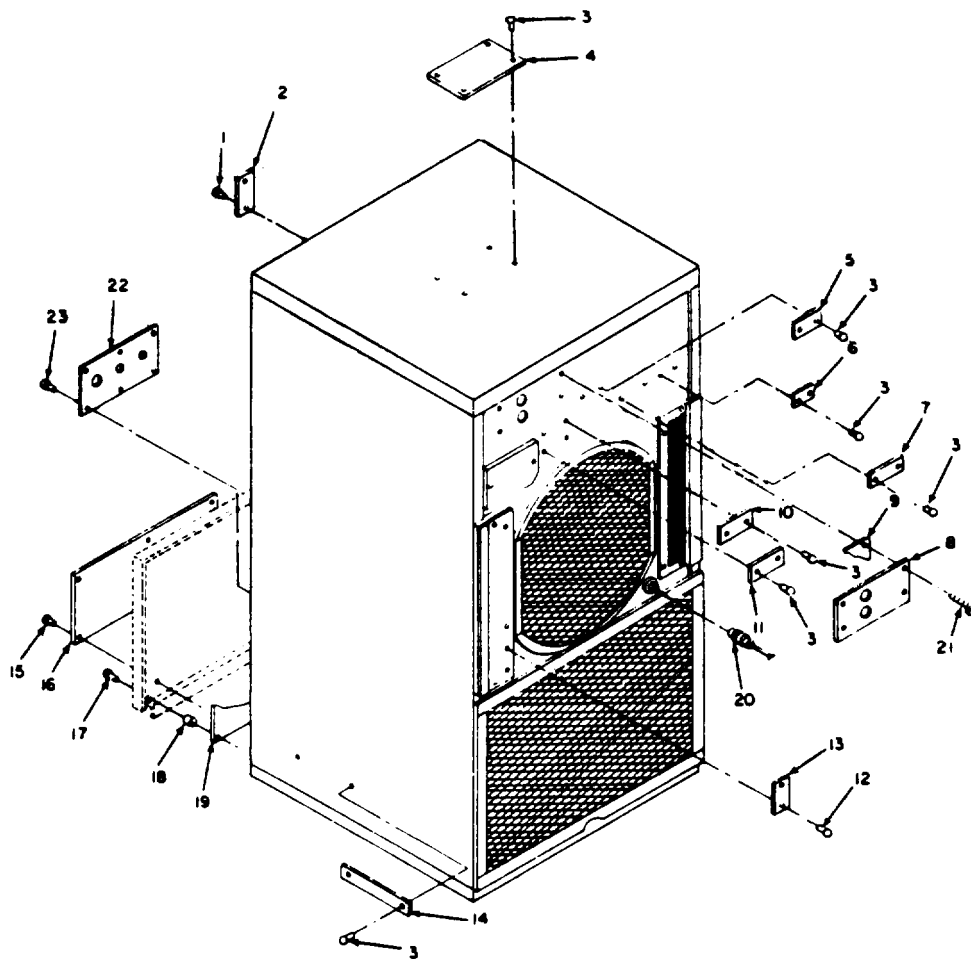

Figure 4-10. Information Plate.
1. Visually inspect information plates for damage, legibility, or loose mounting. See Figure 4-10